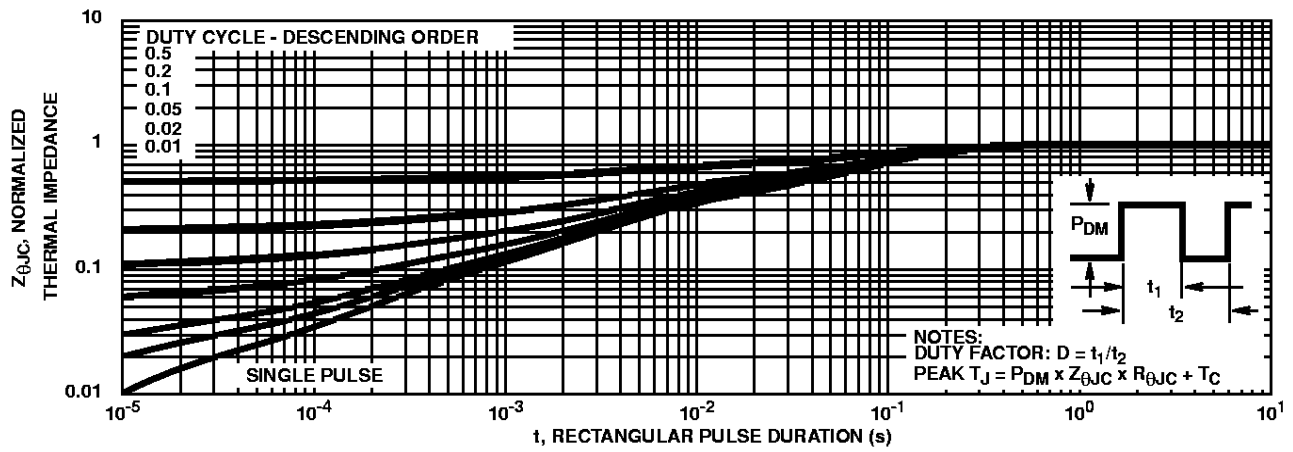

FIGURE 11. NORMALIZED MAXIMUM TRANSIENT THERMAL IMPEDANCE
3. Repetitive rating; pulse width limited by maximum junction temperature (See Figure 11).